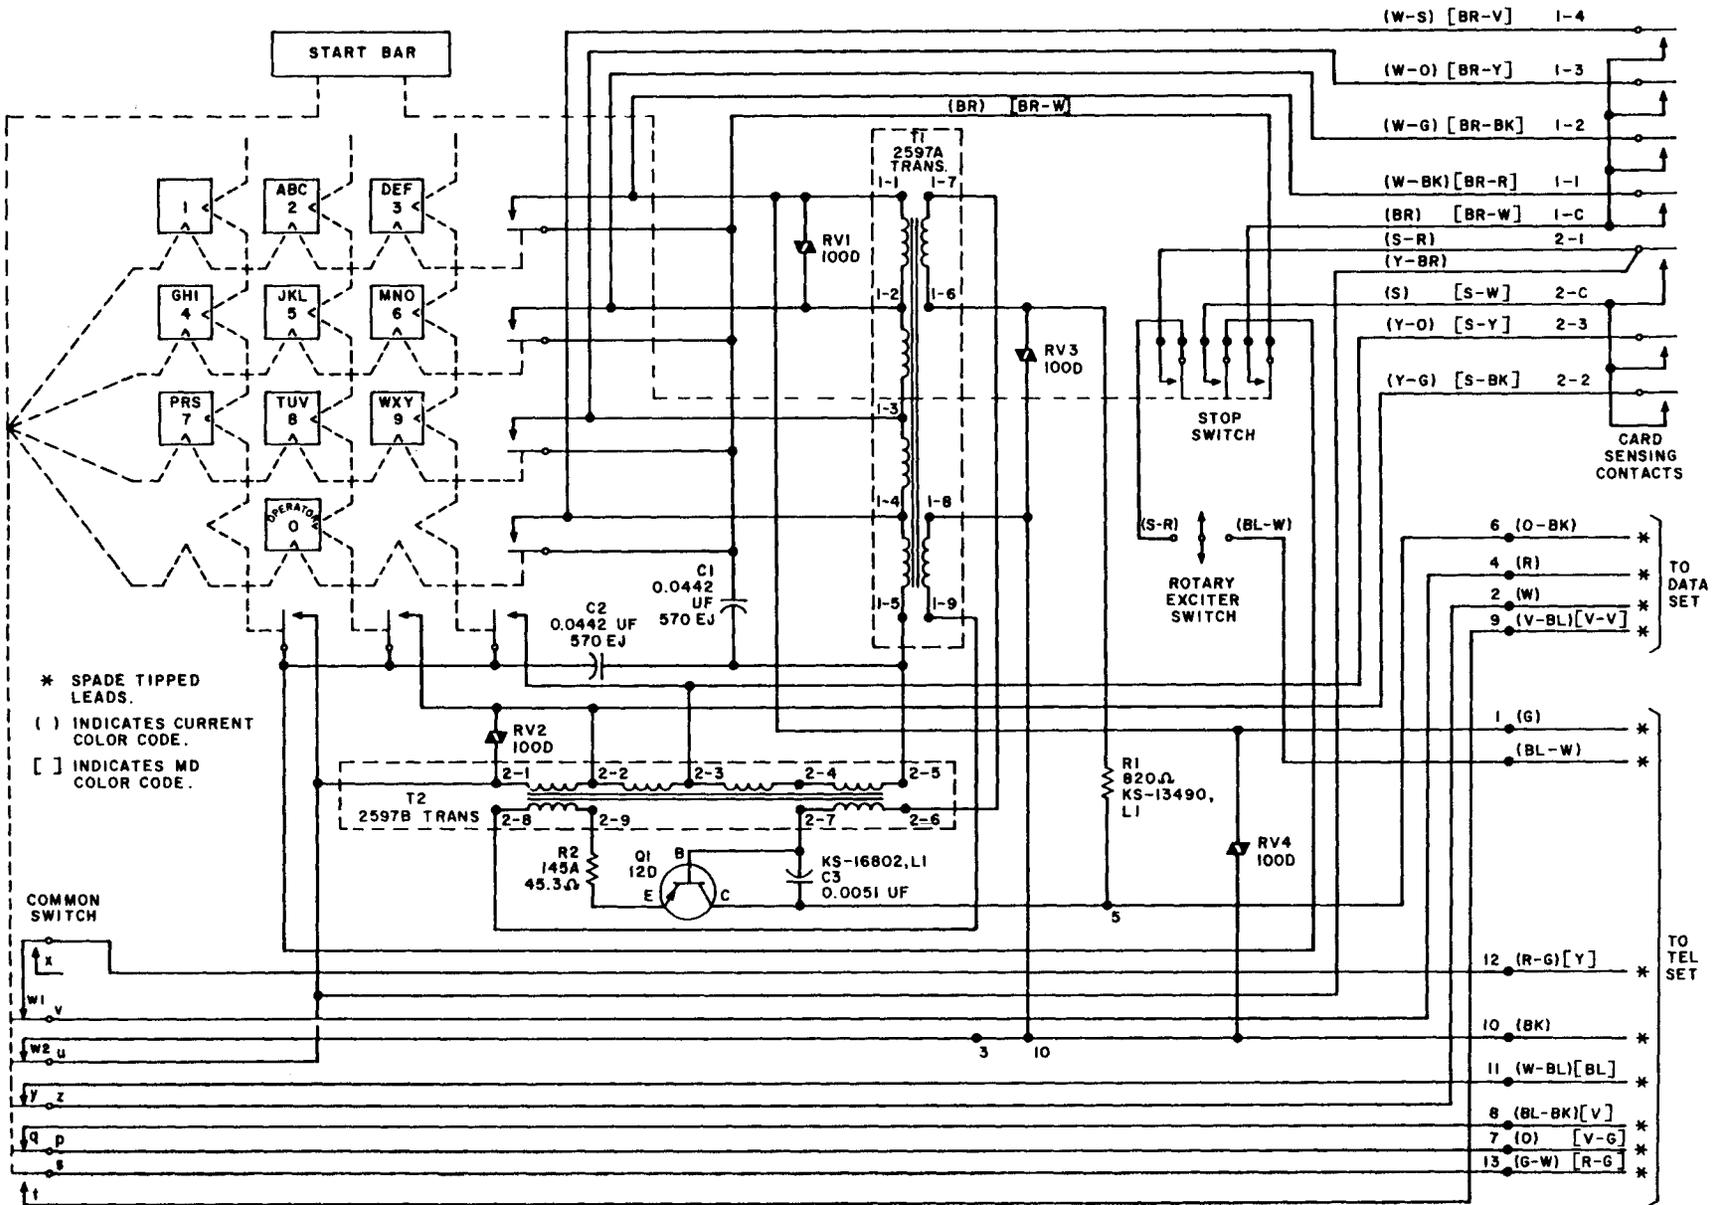

Fig. 7 — 26C Dial, Connections
- Fig. 7 — 26C Dial, Connections